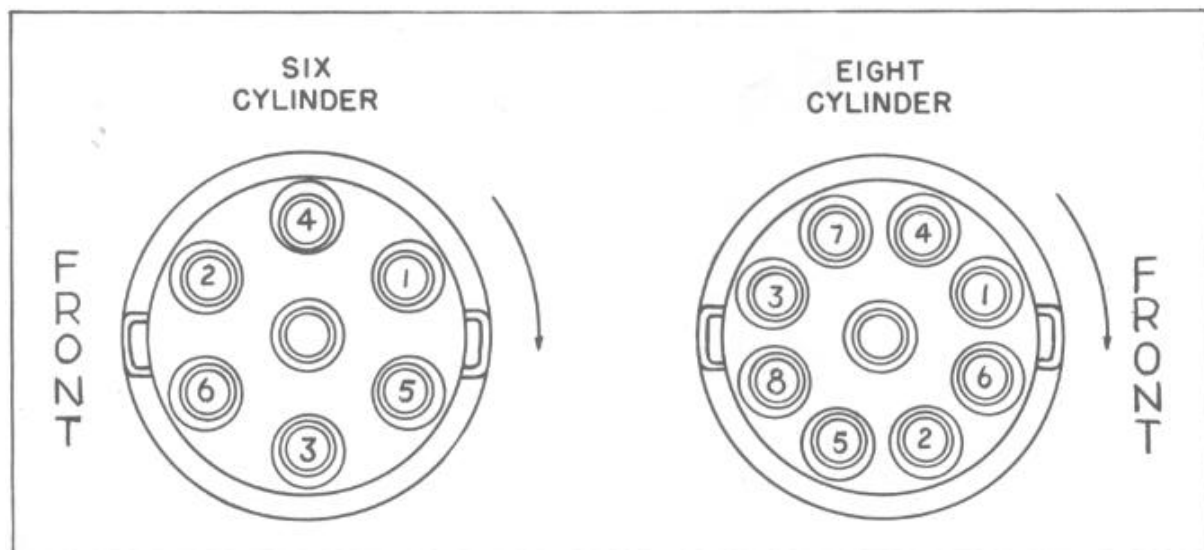

FIGURE 17
2. Set distributor rotor to point to No. 1 contact in the distributor cap, Figure 17.
5. Replace distributor cap, secondary wire and spark plug wires, Figure 17.